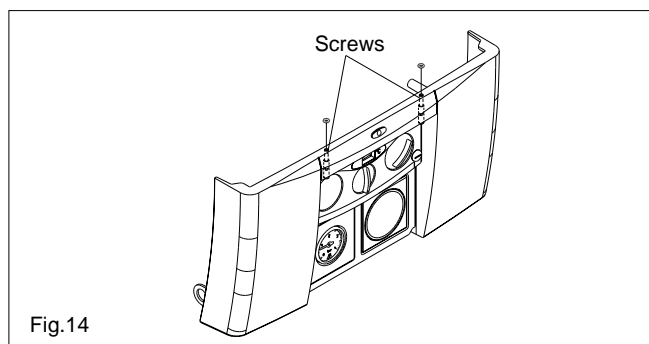

Fig.14
- locate and unscrew the 2 screws that secure the controls fascia to the appliance casing (see fig. 14);